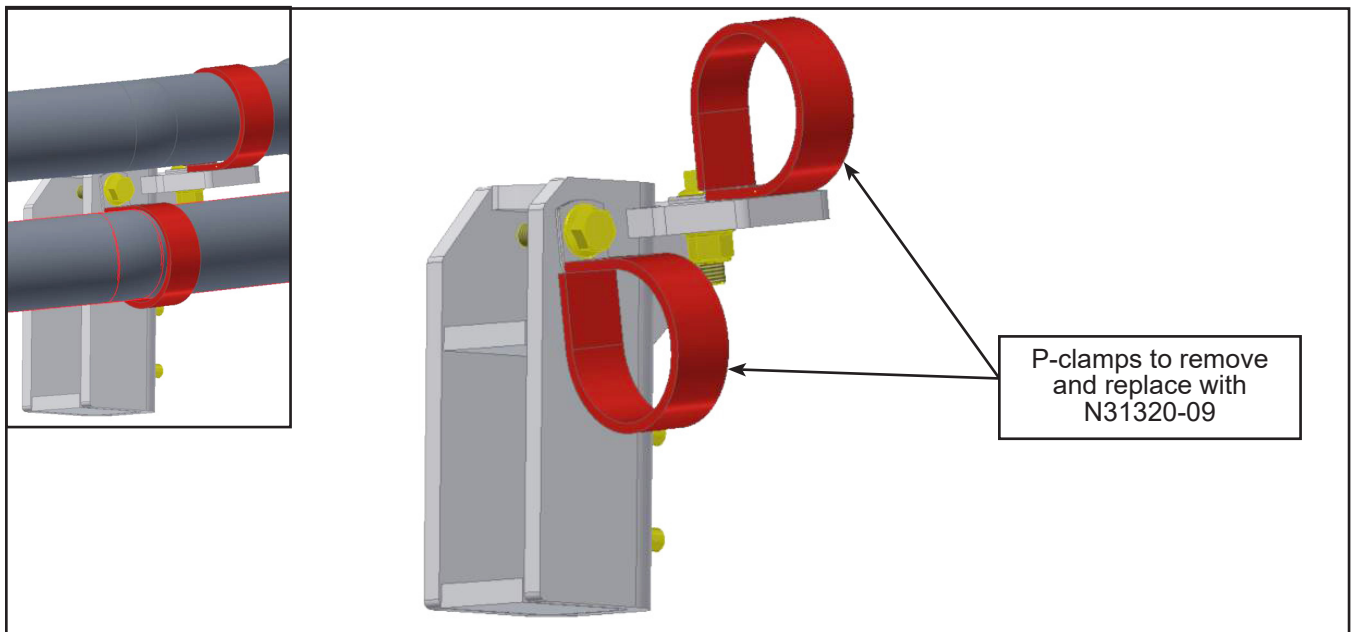

Figure 3 - P-clamps to Replace
- 1.6. Remove the two P-clamps, the screws and the nuts. Discard the P-clamps (Figure 3).